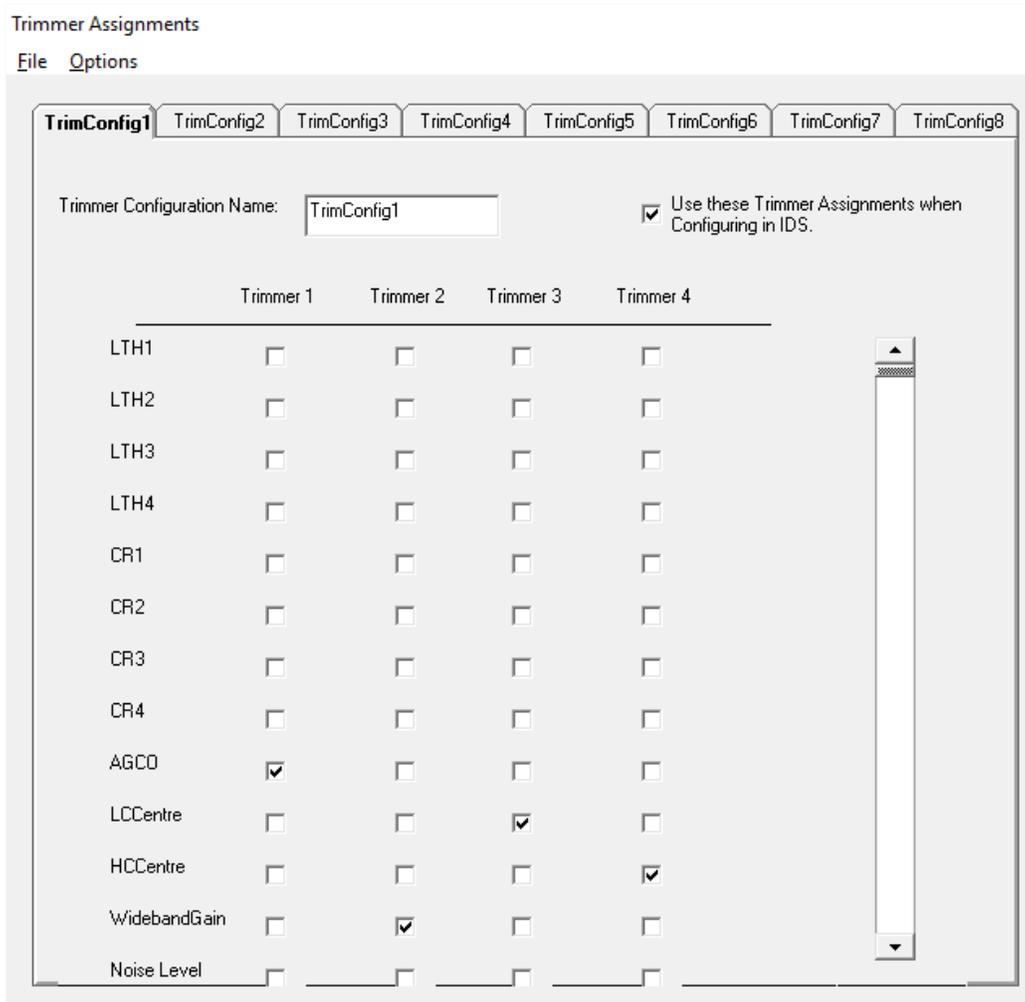

Figure 6. Trimmer Assignments
2. The trimmers are assigned a parameter in the Trimmer tab of IDS as shown below in Figure 6: